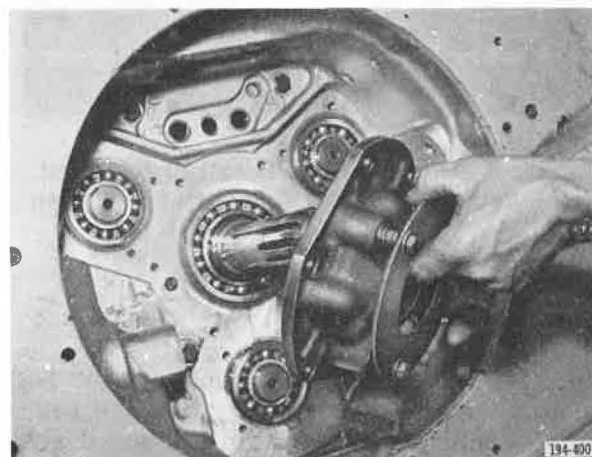

Figure 5-593. Removing Main Drive Pinion Bearing Cover Assembly
6. Place transmission front case in a horizontal position and remove countershaft front bearing covers. Remove main drive pinion bearing cover assembly. See Figure 5-593.